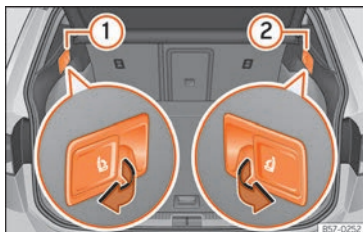

Fig. 162 In the trunk: levers for remote release of the left part ① and right part ② of the rear seat backrest.
- Pull the remote release lever of the left part » Fig. 162 ① or right part ② of the backrest in the direction of the arrow. The released part of the rear seat backrest is folded automatically down and forwards.